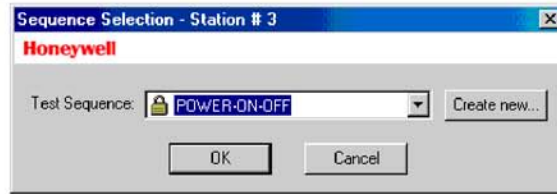

Figure 2. Sequence selection
6. The Sequence Selection dialog will open (see Figure 2). Select the POWER-ON-OFF sequence.